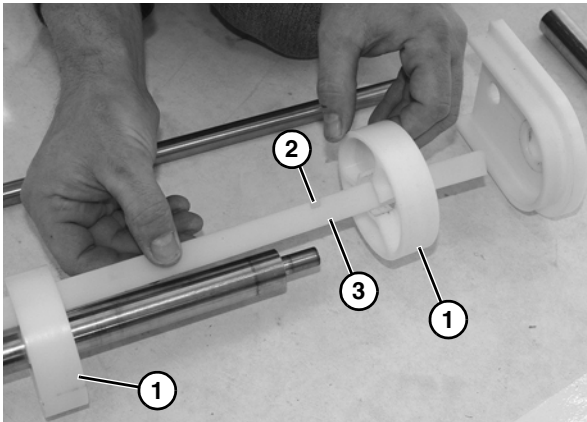

Figure 69
1. Place the pucks (Figure 69, item 1) into the slots (Figure 69, item 2) of alignment bar (Figure 69, item 3).